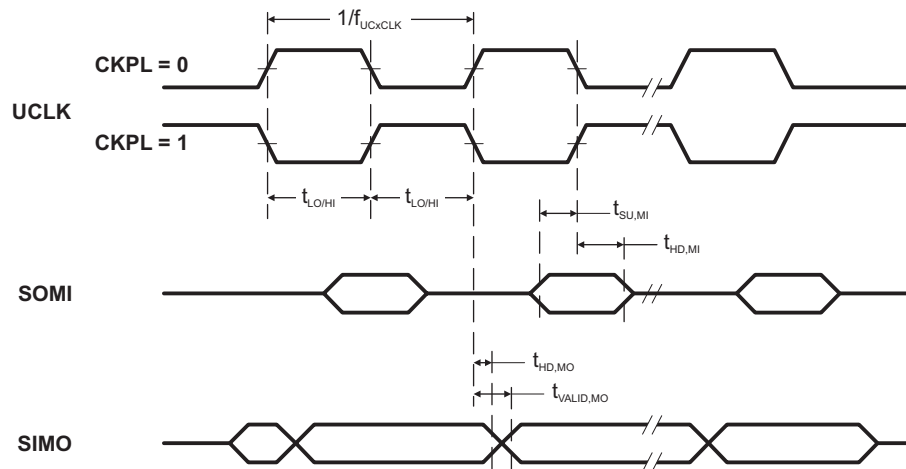
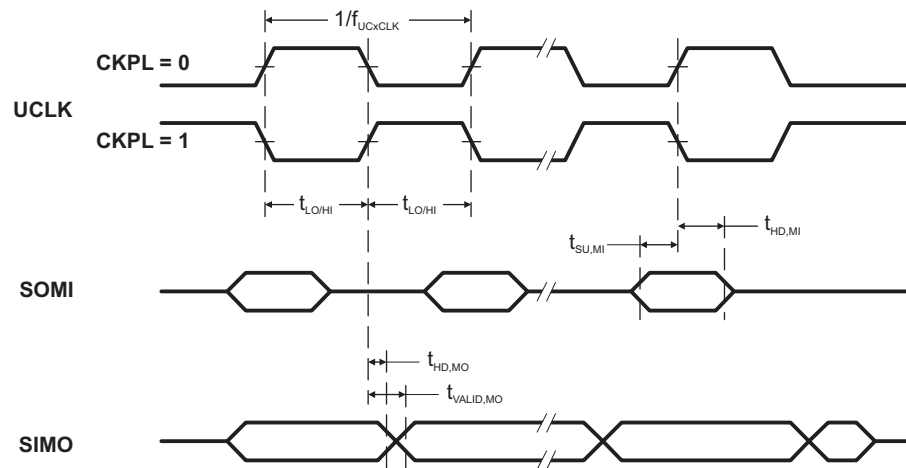

Figure 17. SPI Master Mode, CKPH = 0
Figure 18. SPI Master Mode, CKPH = 1
(see Note ⁽¹⁾, Figure 17 and Figure 18)
- (1) f_{UCXCLK} = 1/2t_{LO/HI} with t_{LO/HI} ≥ max(t_{VALID,MO}(USCI) + t_{SU,SI}(Slave), t_{SU,MI}(USCI) + t_{VALID,SO}(Slave)). For the slave's parameters t_{SU,SI}(Slave) and t_{VALID,SO}(Slave) see the SPI parameters of the attached slave.
- (2) Specifies the time to drive the next valid data to the SIMO output after the output changing UCLK clock edge. See the timing diagrams in Figure 17 and Figure 18.
- (3) Specifies how long data on the SIMO output is valid after the output changing UCLK clock edge. Negative values indicate that the data on the SIMO output can become invalid before the output changing clock edge observed on UCLK. See the timing diagrams in Figure 17 and Figure 18.
(2) Specifies the time to drive the next valid data to the SOMI output after the output changing UCLK clock edge. See the timing diagrams in Figure 17 and Figure 18.
(3) Specifies how long data on the SOMI output is valid after the output changing UCLK clock edge. See the timing diagrams in Figure 17 and Figure 18.